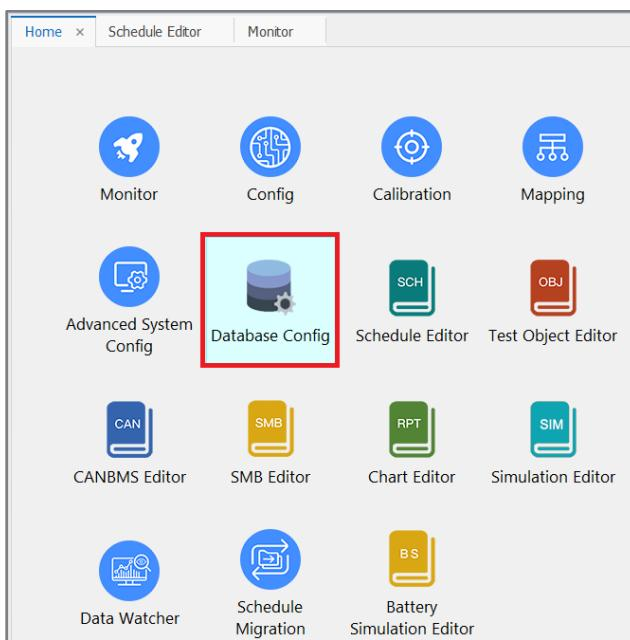

Figure 16-1 Open Database Config
- 1) Double-click the “Database Config” icon on the Console home page (Figure 16-1).